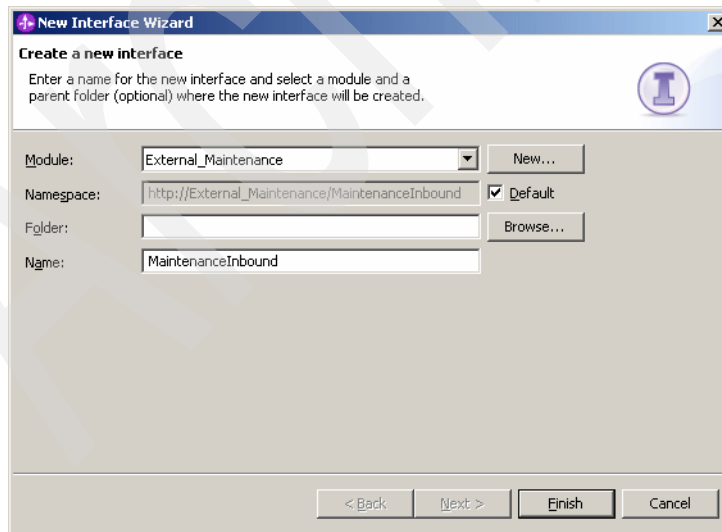

Figure 3-8 New interface
3. Click **Finish** (Figure 3-8).